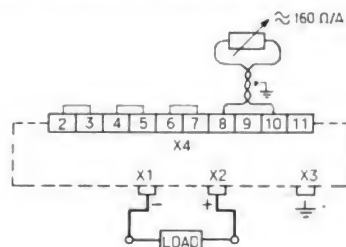

Fig. 8f. Remote current control with external resistor
- By connecting a resistor of approx. 160 Ω per ampere output current as shown in Fig. 8f. The internal coarse and fine current controls R3 and R4 must be turned completely to the right. During operation no connection may be interrupted.
To eliminate extra ripple to the load, the wires should be twisted and/or screened as shown in Figures 8f. and 8g.